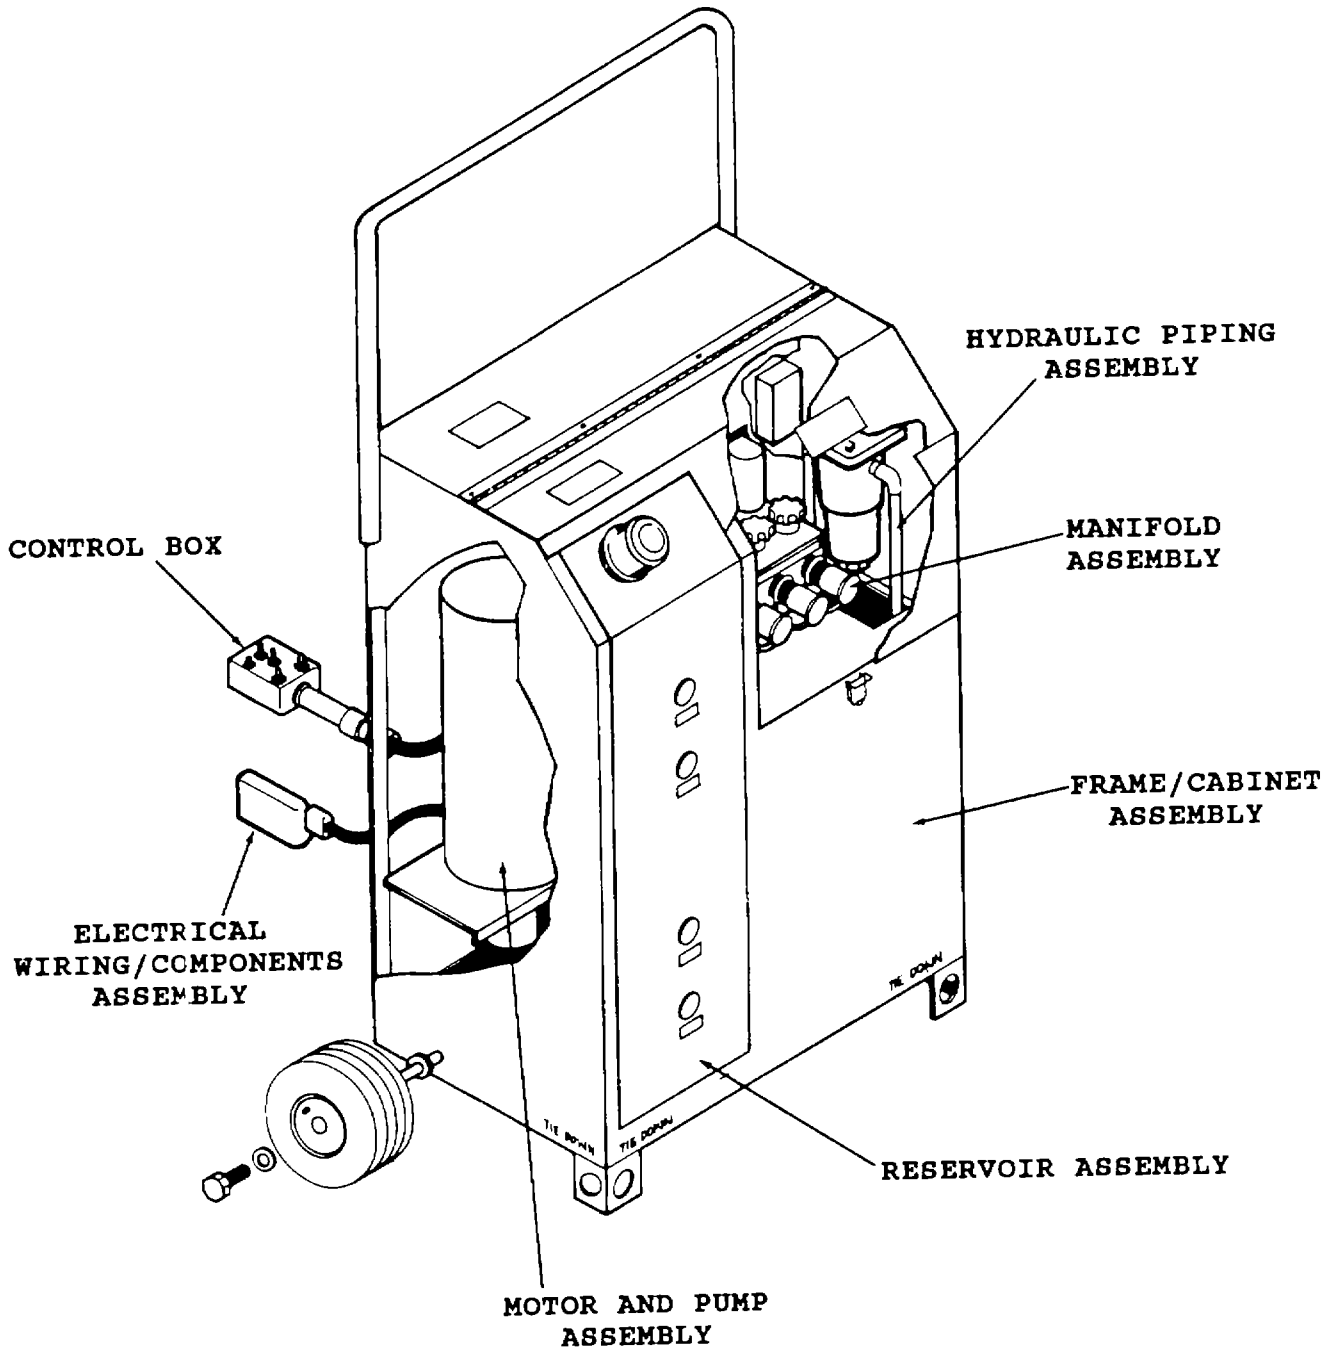

Figure 1-2. Hydraulic Kneeling/Erecting Cart Major Internal Components
1-8. Capabilities and Features. The cart delivers MIL-H-5606 or MIL- H-83282 hydraulic fluid at a minimum rate of 1.2 gallons per minute (gpm) at 1,000 pounds per square inch (psi), and 0.4 gpm at 3,000 psi. The cart is mounted on two wheels with semi-pneumatic tires for easy travel on the flight line. Operator's controls and indicators are located at the front side of the cart under the control panel cover and on the controller stowed inside the cabinet. To familiarize using personnel with the cart characteristics and physical makeup, a table of equipment data is presented in Table 1-1 and some of the major components are identified in Figure 1-2.
1-9. Location and Description of Major Components. The major components (Figure 1-2) of hydraulic kneeling/erecting cart are: frame/cabinet assembly, manifold assembly, motor and pump assembly, reservoir assembly, hydraulic piping assembly, and the electrical wiring/components assembly.
a. Frame/Cabinet Assembly. The cart operating components, including the controls and indicators, are enclosed in a welded steel cabinet, (Figure 1-2). The cabinet is supported on semi-pneumatic tires at the rear corners and legs at the front corners. The legs have holes to facilitate in tiring down the cart for storage or during shipment. A handle is attached to the cabinet for ease in controlling, while moving the cart. A hinged removable door at the rear of the cabinet and a hinged control panel cover on top allow access to all internal components. The cabinet has an access to allow the power cable and controller to remain out with the door in the closed position during operation. A drain hole is located at the bottom of the cabinet. Three horizontally divided areas are available for storage of electrical cables and hydraulic hoses.
b. Manifold Assembly. The manifold assembly (Figures 1-2 and 1-3) houses the majority of controls and indicators used on the cart. Six solenoid valves (for tall, left, and right) permit/receive fluid flow to/from helicopter struts while a seventh solenoid valve allows fluid flow to recirculate to the oil reservoir when neither kneeling/erecting operations are being performed. Three manual flow regulators (for tall, left, and right) control the amount of flow to/from helicopter struts. Three quick disconnect couplings and dust caps (for tall, left, and right) are connected to the manifold at the front end. A pressure gage to read pump pressure developed is connected to the manifold. A variable pressure relief valve to adjust flow pressures between 100 and 3,000 psi is also attached to the manifold. The manifold assembly is easily accessible by lifting up the control panel cover.
c. Motor and Pump Assembly. The motor (Figures 1-2 and 1-4) receives 24 volt direct current (vdc) supply from either the aircraft, _F auxiliary power unit or batteries. The motor is a 1.5 horse power (hp), 1,800 revolutions per minute (rpm), totally enclosed non ventilated motor and drives the hydraulic gear pump through the flexible coupling which connects the motor output to pump input shafts. The pump rotation is clockwise and it pumps out minimum of 1.2 (gpm) at 1,000 psi and 0.4 gpm at 3,000 psi. The motor/pump adapter attaches the pump to the motor. A case covers the motor, start relay, circuit breaker, and electromagnetic interference filter to protect them from environment.